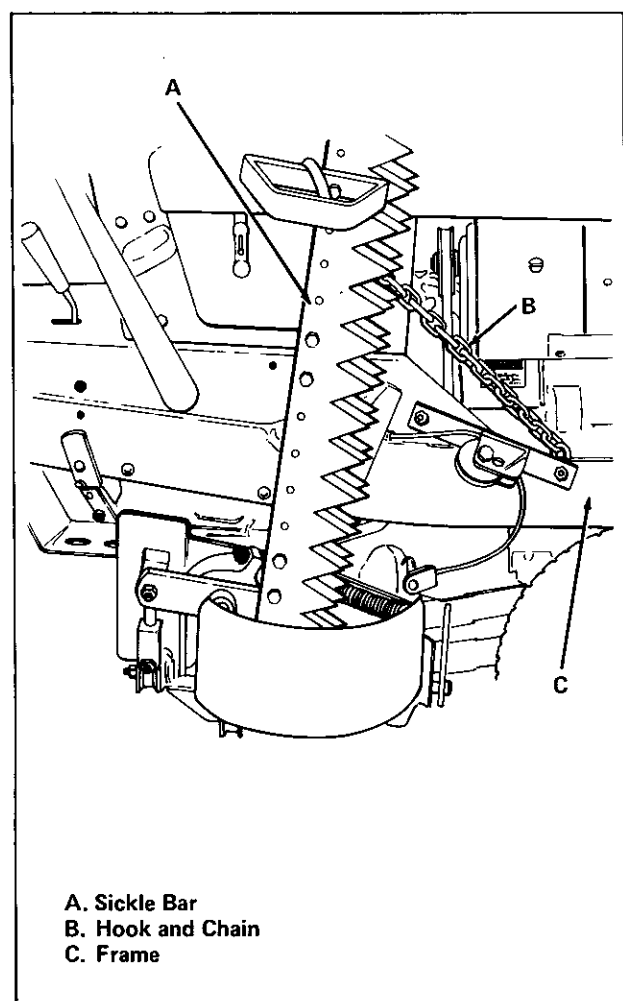

Figure 5. Sickle Bar in Transport Position
1. The sickle bar (item A, figure 5) is stored in the transport position with divider board positioned forward. To lower sickle bar, shut engine off, remove ignition key and set the parking brake.
For long distance transport, the sickle bar is stored in the vertical position (item A, figure 5).